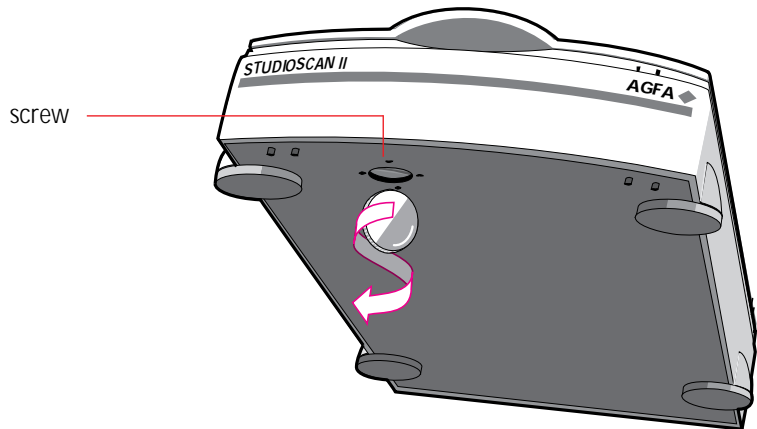

Figure 2
1. **Locate the locking screw at the base of the scanner as shown in Figure 2.**